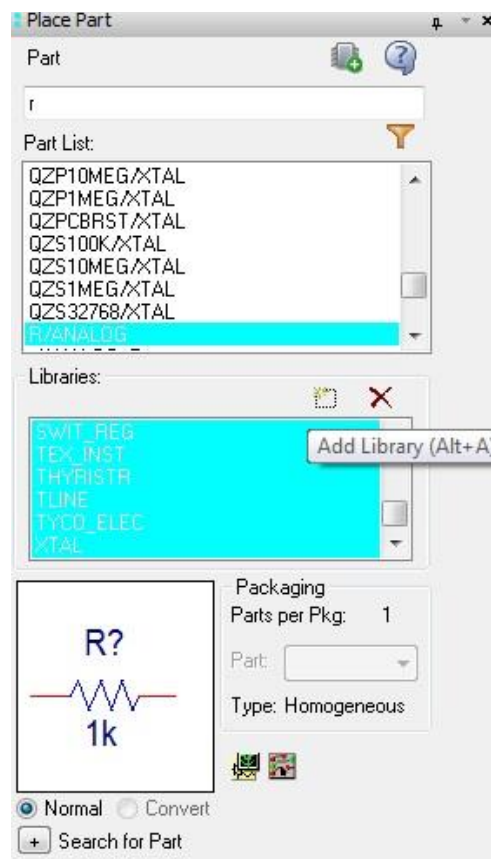

Figure 4 - Get Parts Dialog
a) The next step is drawing the desired schematic. To get parts, go to Place -> Part (see Fig. 4). Or at the right hand side of the schematic window, click on “Place Part” icon.